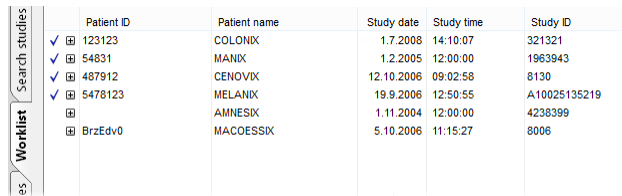

Figure 121 – The studies in the worklist
- Opening a selected study along with all of its prior studies from the worklist (by clicking the **Open study** button). After a study from the worklist is opened, its status changes to read. All studies in the worklist that are in the read state are marked with the ✓ icon on the left-hand side of the row (see Figure 121).